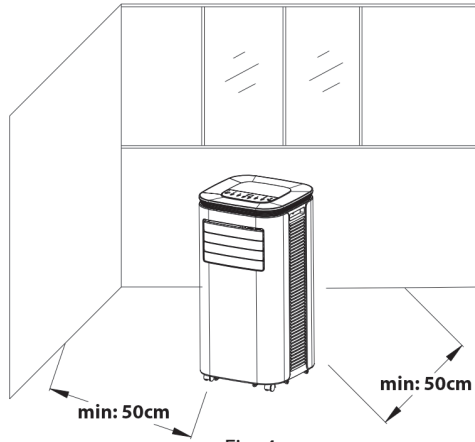

Fig. 4
- Move the machine with installed heat pipe and fittings before the window, and the distance between the body and walls or other objects shall be least 50 cm (as shown in Fig.4).